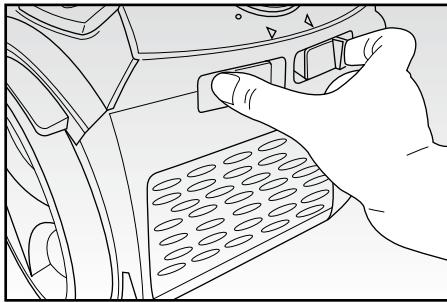

Fig. 9
- Use the two levers and lower the hatch in the back section of the appliance (Fig. 9).